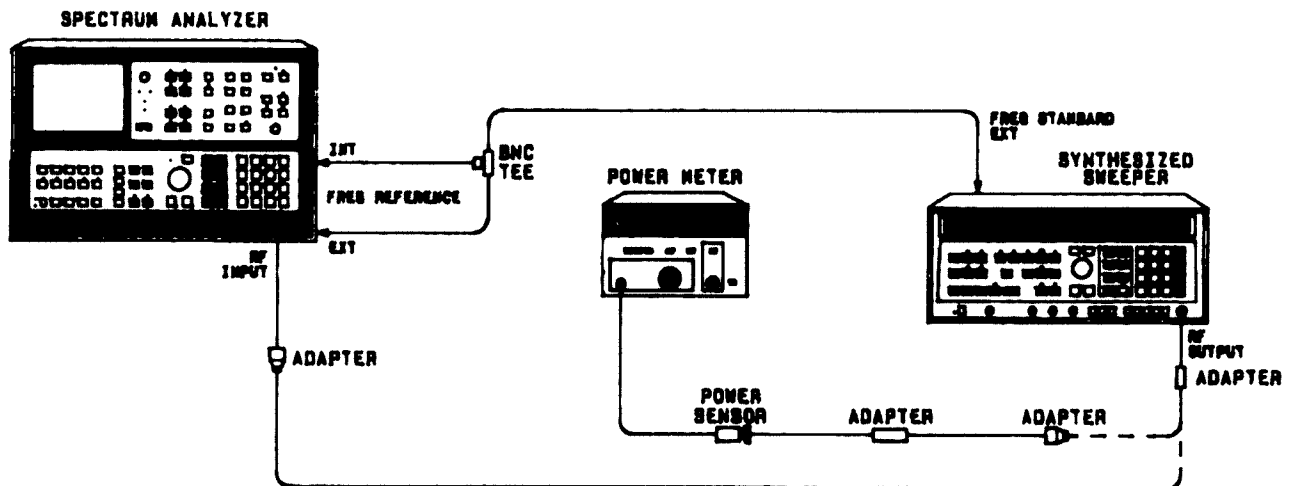

Figure 2-32. Gain Compression Test Setup
3. Connect equipment as shown in Figure 2-32, with output of synthesizer connected to power sensor. Power is measured at the end of the cable assembly, not at the synthesizer output connector. Adjust synthesizer output level for a power meter indication of $-25.00 \text{ dBm} \pm 0.05 \text{ dB}$.
4. Disconnect cable assembly from power sensor and connect free end to spectrum analyzer RF INPUT as indicated in Figure 2-32. Key in analyzer settings as follows: